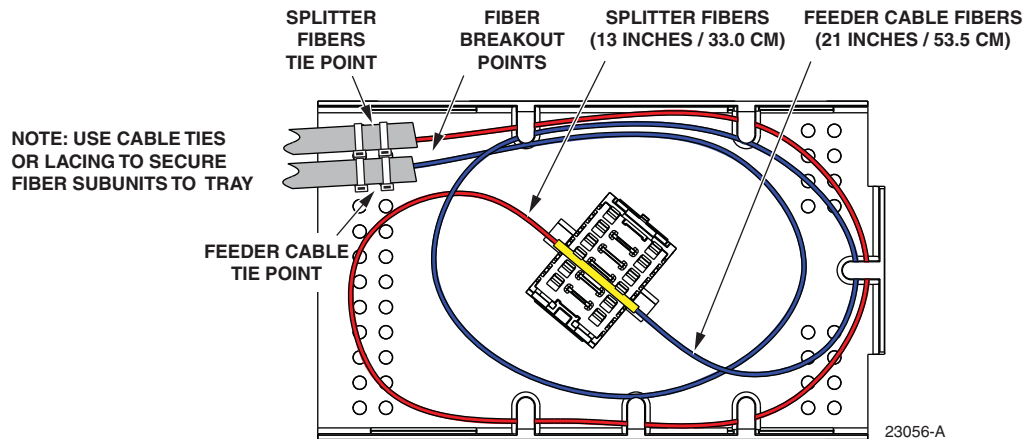

Figure 37. Ribbon Fiber Splice Tray - Feeder Cable Splicing
13. Splice the feeder cable fibers to the appropriate splitter fibers as specified by local policies and procedures. Adjust and route the fibers within the splice tray as shown in Figure 37. Refer to Table 4 for the splitter fiber designations.